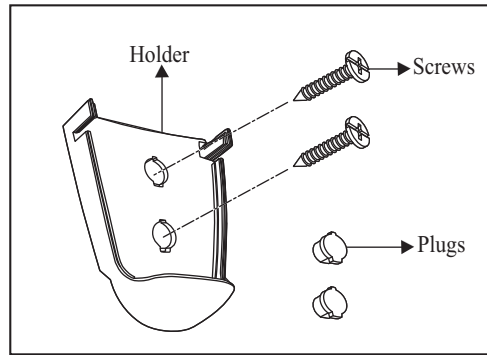

Figure 24
1. Remove the two plugs from the holder. Note that the plugs have unique tabs that allows them to fit only in one hole. (Fig. 24)